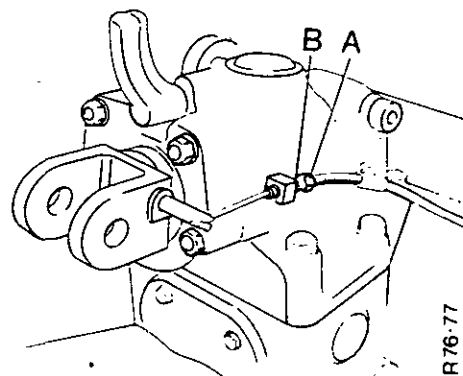

FIGURE 183. CABLE FOR THE SENSING UNIT SETTING
3. From the rear of the tractor turn the nut 'A' and adjuster 'B' clockwise (see Figure 183). This will move the nut and adjuster towards the front of the tractor. Do this until the cable will move easily.